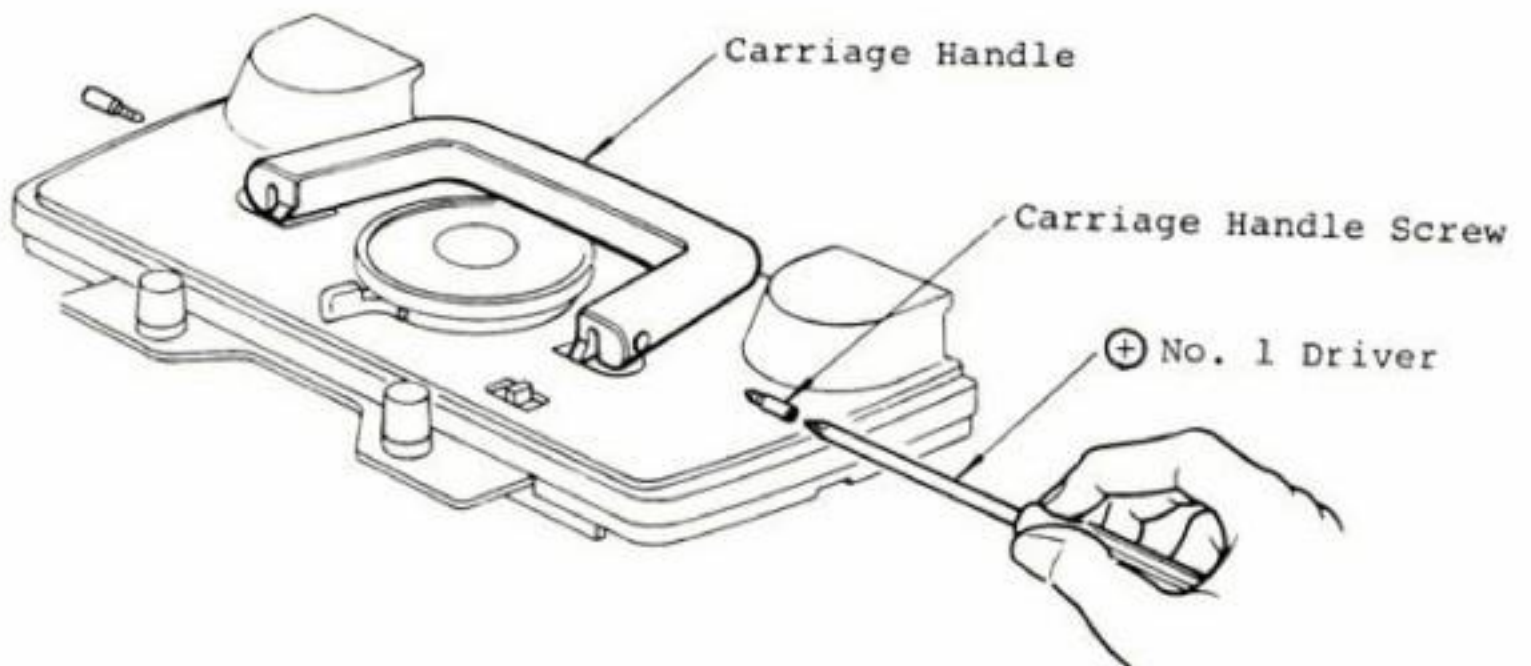

Fig. 13
2. Remove the two Carriage Screws, both of which are located in a recess at the foot of both sides of the Handle. Use a ⊕ No. 1 Driver as shown in Fig. 13 below.